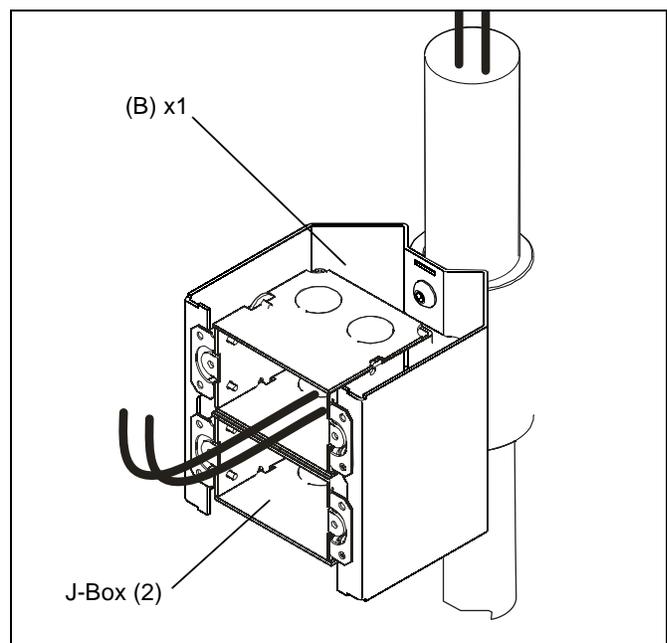

Figure 4
5. Align two mounting holes in each J-Box with two upper mounting holes in mounting plate (B). (See Figure 4)
6. Route wires through 1 1/2" NPT pipe, through hole in front of coupling (A) and into J-Box. (See Figure 4)